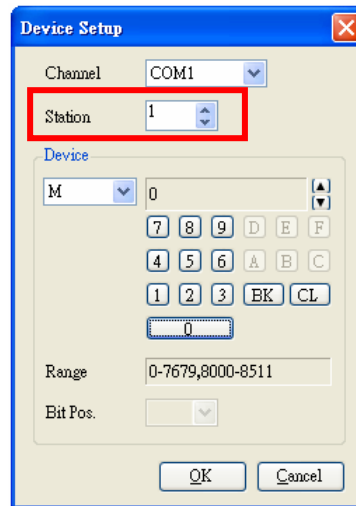

Fig. 2 Station Number Setup
- The PLC station internal number is 1 by default, so the component of the edit screen should have the station number set to 1 before the communication can begin. This is shown in Figure 2 .